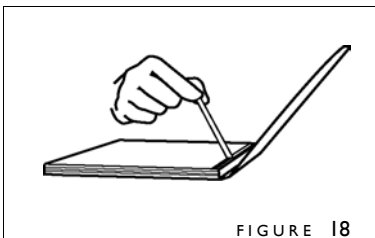

FIGURE 18
6. Release the clamp by bringing the Lever to the upright position. Remove the partially bound book and turn over. On the back side remove the remaining release paper (figure 18).